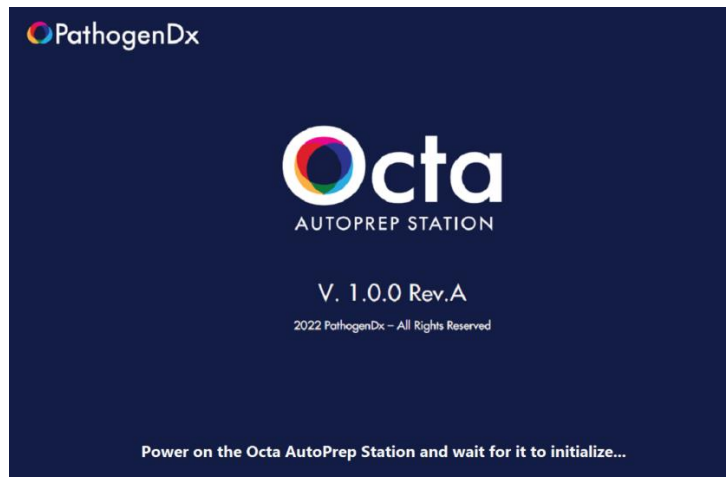

Figure 2: Octa AutoPrep Station software loading screen.
5. Select the Octa shortcut located on the Desktop. You will see the loading screen appear as shown in Figure 2.